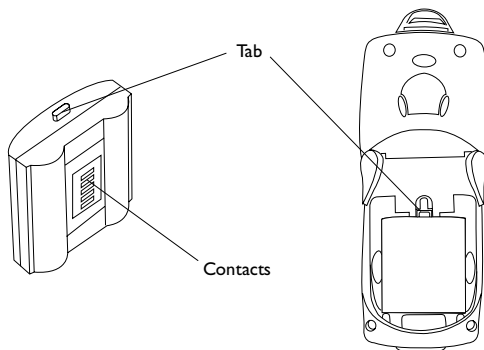

Figure 6-2. Inserting the NiMH Battery Pack
3. Slide a NiMH battery pack in the compartment, with the contacts facing inside the compartment and the tab facing the top of the compartment (Figure 6-2).